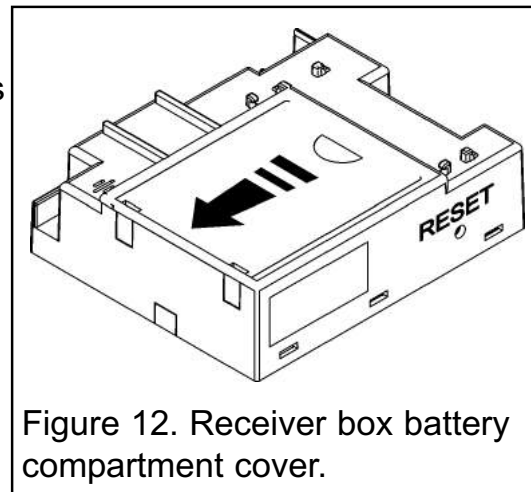

Figure 12. Receiver box battery compartment cover.
– Gently pull the receiver box forward and clear of its support. Slide the battery compartment cover clear (See figure 12). Remove the existing batteries. Fit four 1.5 Volt 'AA' size batteries. It is important that the +ve and -ve symbols on the battery match those of the illustration inside the battery holder. Replace the cover, slide the receiver back into its support bracket and shut the access cover.